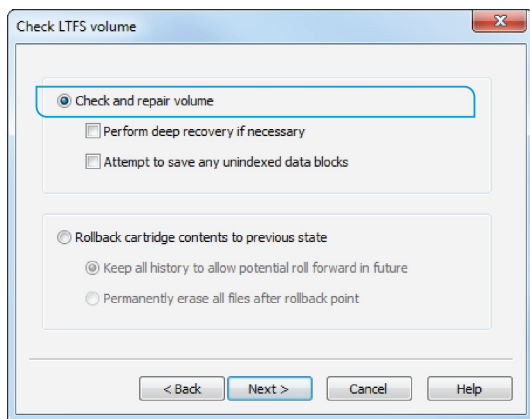

Figure 15. Windows CheckWizard options
3. Follow the prompts, making sure you read them carefully. Select the option for “Detailed progress information” if desired; then on the next screen choose the option “Check and repair volume” (as shown in figure 15). If you think that the scenario shown in figure 14 may apply, then check the box “Attempt deep recovery.” (It is not harmful to select it regardless, but the recovery process will usually take longer.) You can also indicate here if you want HPE StoreOpen to try to save any unidentified data blocks.